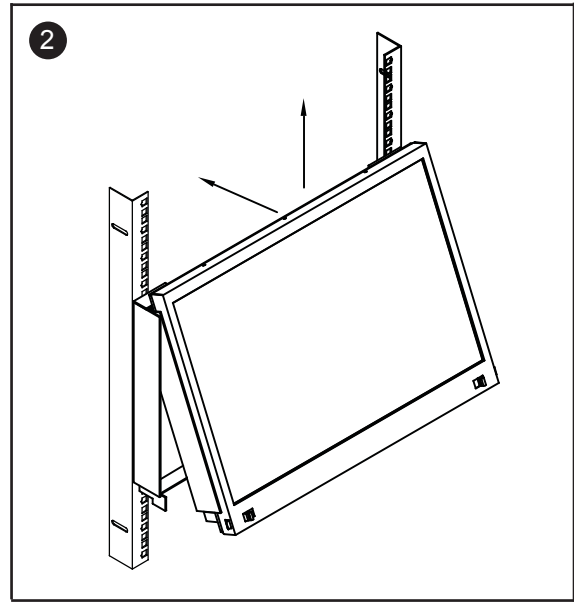

Figure 4.
■ Insert the upper part of the LCD display to the rack shown in **Figure 4**.